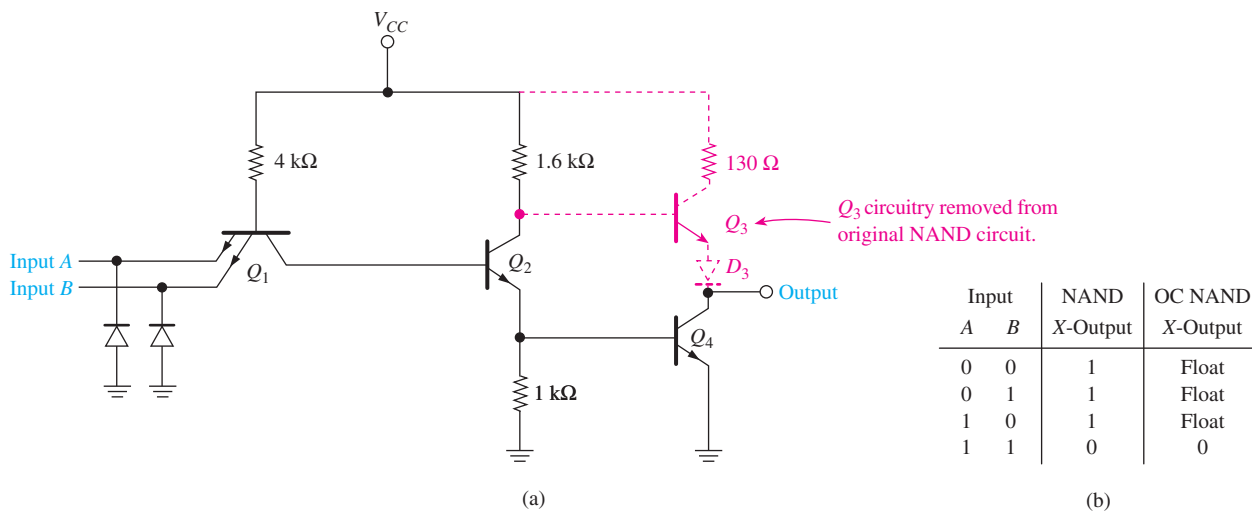

Figure 9-13 TTL NAND with an open-collector output: (a) circuitry; (b) truth table.
Instead of using a totem-pole arrangement in the output stage of a TTL gate, another arrangement, called the **open-collector (OC) output**, is available. Remember that, with the totem-pole output stage, for a LOW output the lower transistor is ON and the upper transistor is OFF, and vice versa for a HIGH output, whereas with the OC output the upper transistor is *removed*, as shown in Figure 9-13(a). Now the output will be *LOW* when Q_4 is ON, and the output will *float* (not HIGH or LOW) when Q_4 is OFF. This means that an OC output can sink current, but it *cannot* source current. The truth table comparing a NAND (74LS00) to an open-collector NAND (74LS01) is shown in Figure 9-13(b).